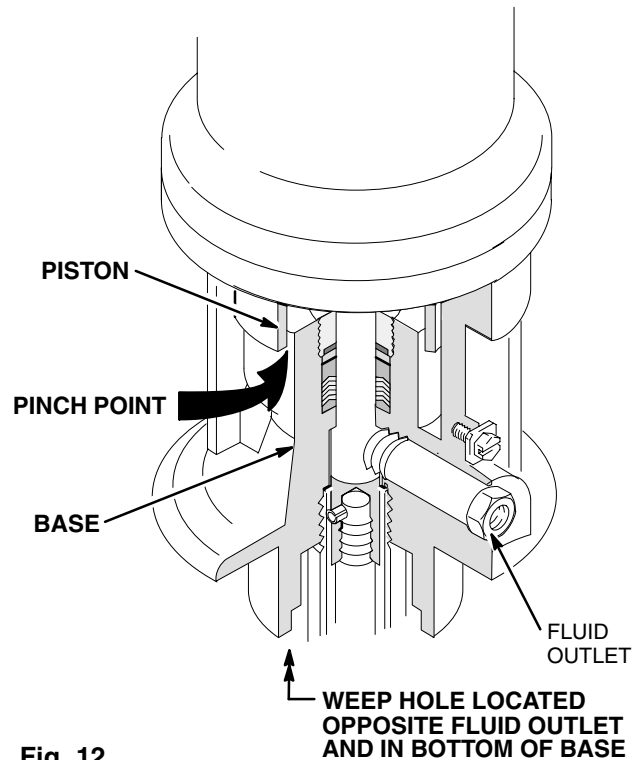

Fig. 12
Keep your hand and fingers away from the piston when it is moving. As the piston moves into the pump base it can amputate fingers or break tools caught between the moving parts. Note the pinch point shown in Fig. 12. Be sure all air and fluid pressure is fully relieved before adjusting the piston or packing nut to reduce the risk of amputation.
3. Check to see that the air motor piston is at the top of the stroke. If it is not, **first read the warning above. Then, while keeping your fingers away from moving parts**, apply very low pressure air to the air inlet to move the piston up. Close the air regulator and disconnect the air supply hose. Refer to Fig. 12.